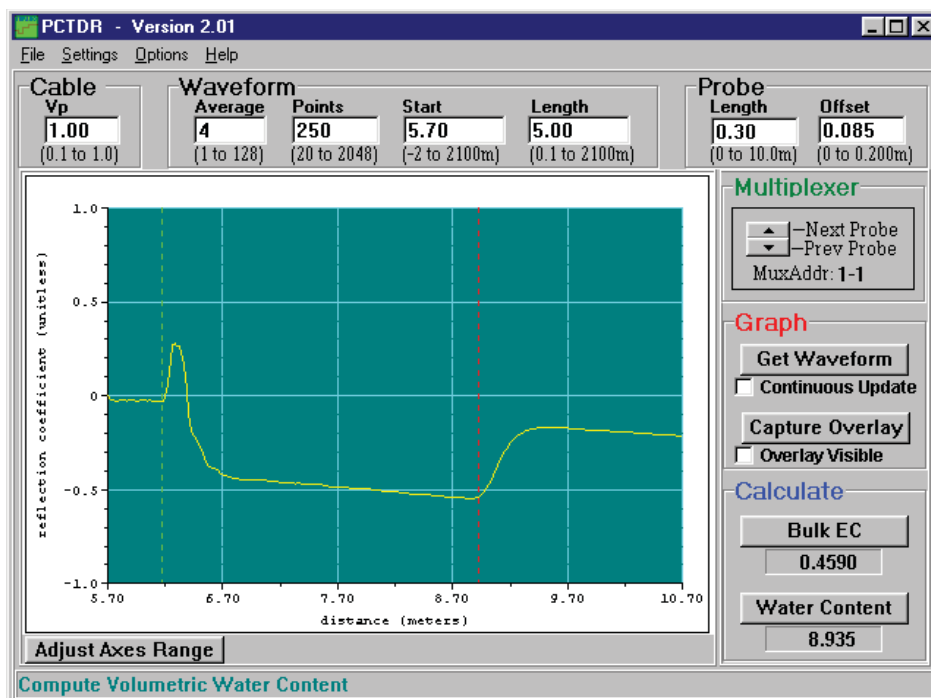

FIGURE 4-2. Waveform of CS610 in water after changing Start and Length parameters to display relevant portion of reflected signal
Changing the *Waveform Start* value to 5.7 m and the *Waveform Length* to 5 m gives the waveform displayed in FIGURE 4-2.
*Start* – the apparent distance from the TDR100 to where the displayed waveform will begin (using *File/Save ASCII Waveform*). For water content measurements this value should be the apparent distance from the TDR100 to the beginning of the probe minus approximately 0.5 meter. FIGURE 4-2 is an example of the display when the correct start is chosen.